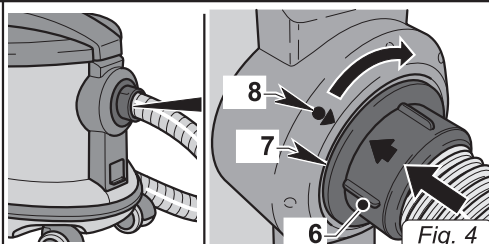

Fig. 4
- Insert the sleeve with bayonet coupling (6 Fig. 4) into the hole (7 Fig. 4) on the drum, ensuring the arrow on the sleeve (6 Fig. 4) coincides with the arrow (8 Fig. 4) on the coupling ring nut, then turn the sleeve clockwise until it locks.